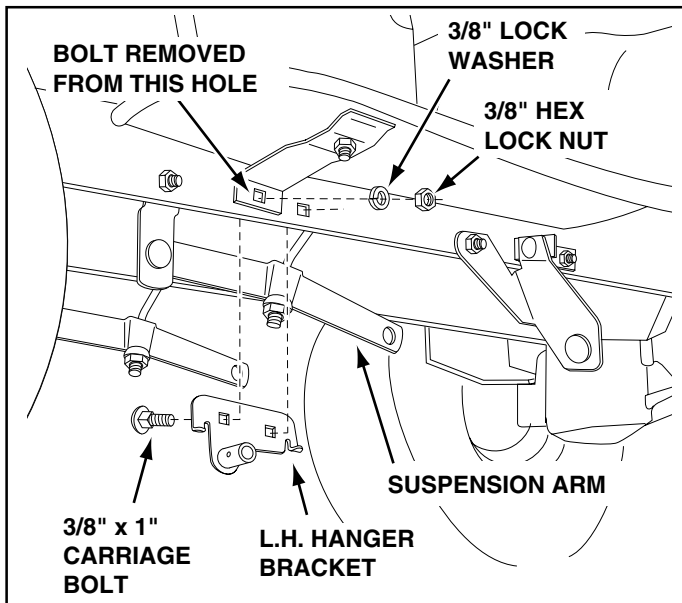

FIGURE 7 LEFT SIDE VIEW
On Tractors With Foot Rest Brackets (Figure 7)
- Remove the bolt and nut that fasten the L.H. and R.H. foot rest brackets to the frame. See figure 7.
- Attach the L.H. Hanger Bracket (marked "L") to the inside of the tractor frame using two 3/8" x 1" carriage bolts, 3/8" lock washers and 3/8" hex lock nuts. The bolt heads go on the inside of the tractor frame. Repeat for the R.H. side. See figure 7.